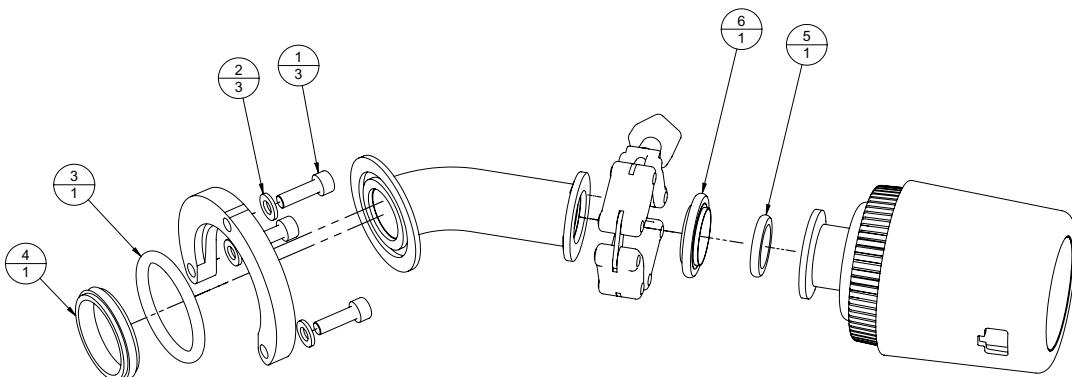

Figure 4.12 HiVac Gauge Assembly
1. Refer to Figure 4.12.
2. Remove three M6 x 20 screws (1) and washers (2) and remove the HiVac gauge assembly.
6. Refit the assembly to the chamber using screws (1) and washers (2).